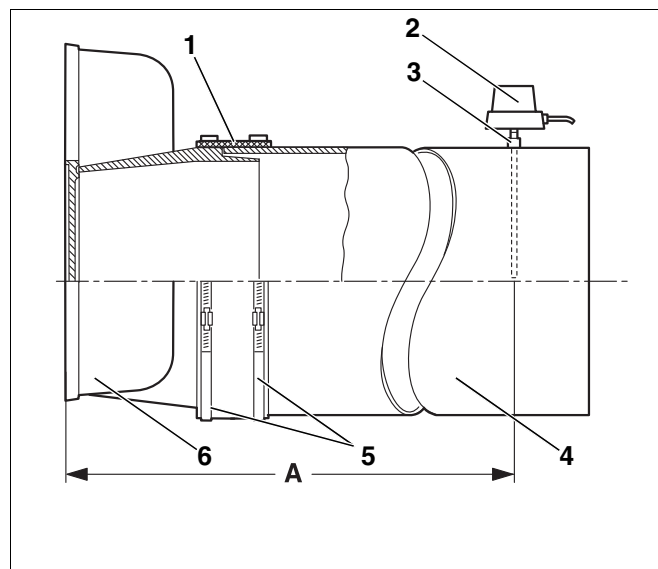

Fig. 59 Installing the flue pipe
We recommend you use a flue pipe sealing collar (Fig. 59, [1]).
- ▶ Push the flue pipe (Fig. 59, [4]) as far as possible onto the flue gas header outlet (Fig. 59, [6]).
- ▶ Place the flue pipe sealing collar (Fig. 59, [1]) around the flue pipe (Fig. 59, [4]) and flue gas header outlet so that it overlaps at the top (Fig. 59, [6]).
- ▶ Place jubilee clips (Fig. 59, [5]) over the flue pipe sealing collar (Fig. 59, [1]). One of the jubilee clips (Fig. 59, [5]) must press onto the flue gas header outlet (Fig. 59, [6]) and one onto the flue pipe (Fig. 59, [4]).
- ▶ Tighten jubilee clips (Fig. 59, [5]). The flue pipe sealing collar (Fig. 59, [1]) must fit smoothly and firmly in place.
- ▶ Weld the coupling (Fig. 59, [3]) into the flue pipe (Fig. 59, [4]) at a distance from the flue gas header (Fig. 59, [6]) which is twice the flue pipe diameter (A).
- ▶ Fit the flue gas temperature sensor (Fig. 59, [2]) as described in the separate installation manual.